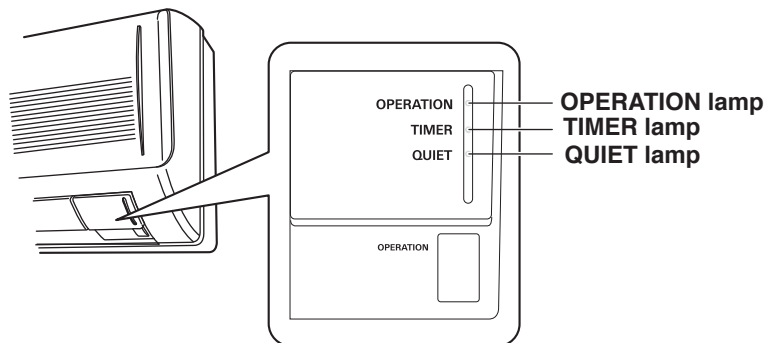

Fig. 59c
- This starts the fan producing uncooled forced air with the 3 indicator lamps (OPERATION lamp, TIMER lamp and QUIET lamp) on the main unit blinking. (Fig. 59c)